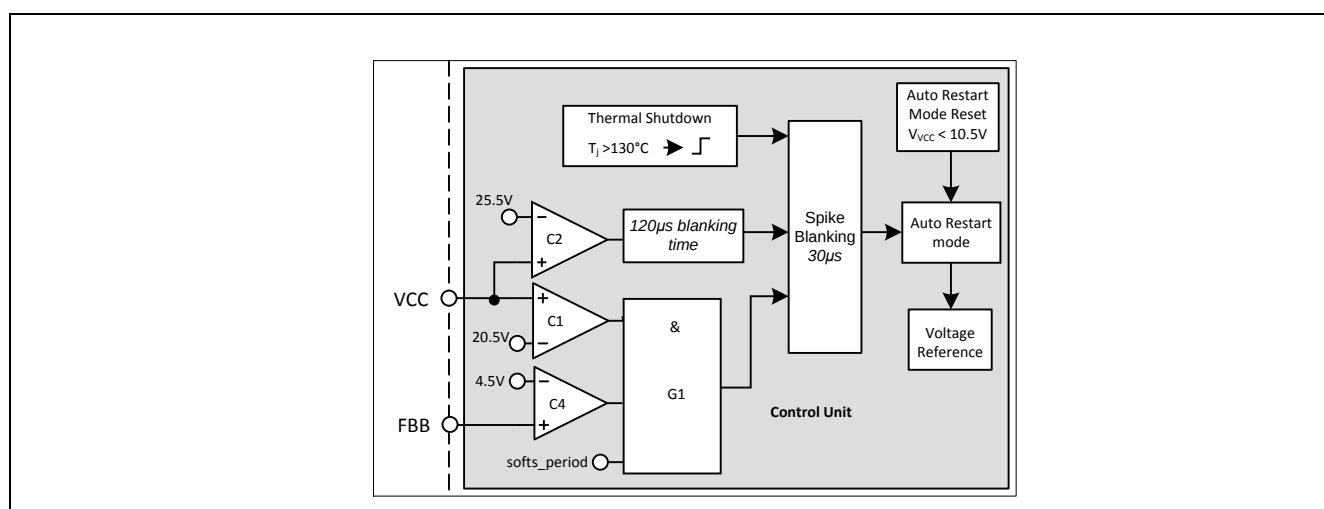

Figure 30: Vcc OVP and OTP
Vcc OVP (1) condition is when V_{VCC} voltage is > 20.5V, V_{FBB} voltage is > 4.5V and during soft start period, the IC enters into odd skip Auto Restart Mode. This condition likely happens during start up at open loop fault (Figure 30).
V_{CC} OVP (2) condition is when V_{VCC} voltage is > 25.5V, the IC enters into odd skip Auto Restart Mode (Figure 30).
The over temperature protection OTP is sensed inside the controller IC. The Thermal Shutdown block keeps on monitoring the junction temperature of the controller. After detecting a junction temperature higher than 130°C, the IC will enter into the non switch Auto Restart mode. The ICE3AR2280VJZ has also implemented with a 50°C hysteresis. That means the IC can only be recovered when the controller junction temperature is dropped 50°C lower than the over temperature trigger point (Figure 30).